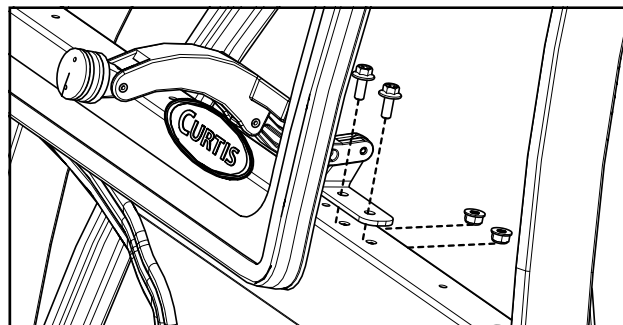

Fig. 9.2 (Pop-Out Latch Bracket Installation)
9.2 Fasten lower latch brackets to cowl with the pop-out latches open. See Fig. 9.2. Ensure windshield opens and closes properly, and tighten latch bracket hardware.